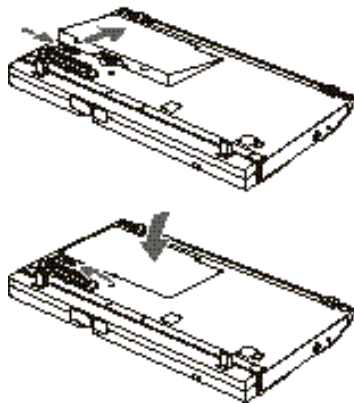

Figure 5-15 Installing a Battery in the Detachable Bay
3. Slide the Battery Lock to the unlocked position. (See Figure 5-15.)
4. Arrange the battery with the notched side away from you and the connector toward you and facing down. (See Figure 5-15.)
5. Insert the battery at an angle, notched side first, into the Battery Bay and push it away from you as far as it will go. (See Figure 5-15.)
6. Push down the near edge of the battery until it is flush with the surface of the Detachable Bay. Slide the Battery Lock to the locked position. (See Figure 5-15.)